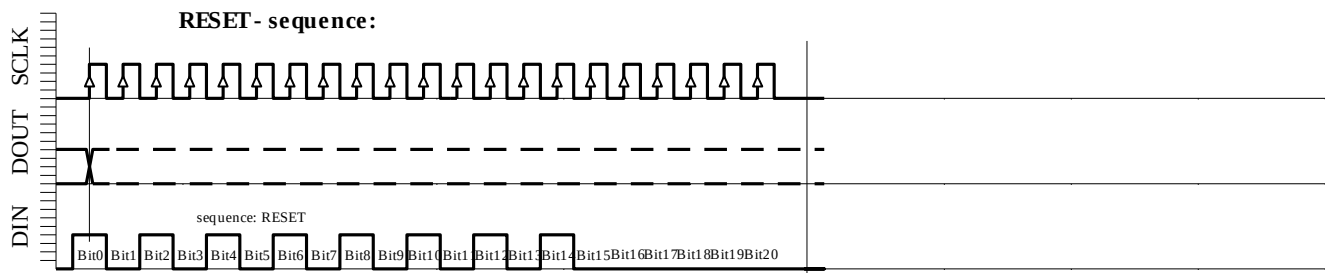

Fig. 6e: RESET sequence (21 bit)
- ✦ RESET sequence (Figure 6e)
The RESET sequence is special as the module in any state recognizes its unique pattern. By consequence, it can be used to restart if synchronization between the microcontroller and the MS5534C has been lost. This sequence is 21-bit long. The DOUT signal might change during that sequence (see Fig. 6e). It is recommended to send the RESET sequence before each CONVERSION sequence to avoid hanging up the protocol permanently in case of electrical interference.